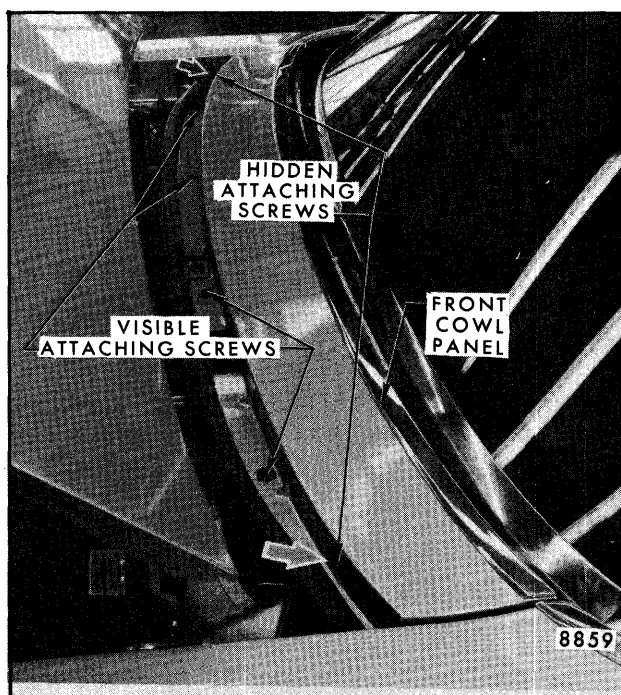

Fig. 4-9-Front Cowl Panel
1. Raise hood and remove four visible front cowl attaching screws (Fig. 4-9).
2. Remove two hidden attaching screws at out-board ends of panel. These screws are accessible through holes in panel (see arrows, Fig. 4-9).